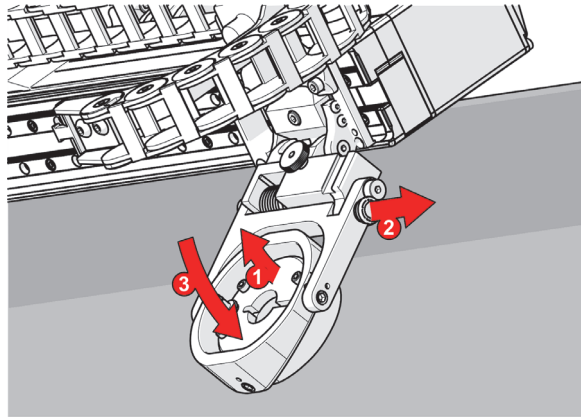

Figure 2-44 Remove pivot nose and carriage bracket
1. Gently lift the probe holder (see Figure 2-44 on page 78).
2. Pull the probe holder latch (see Figure 2-44 on page 78).
3. Lower the probe holder gently to the scan surface (see Figure 2-44 on page 78).